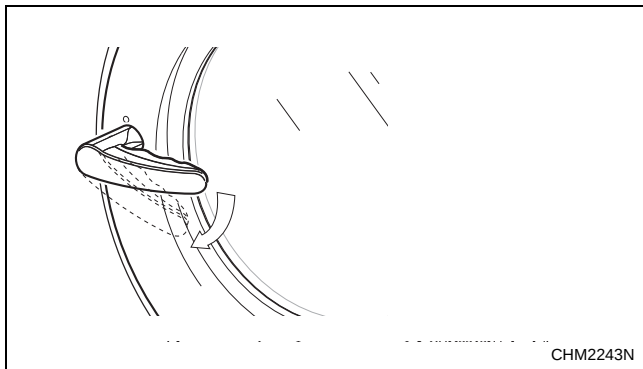

Figure 4
2. Turn handle clockwise to open. Refer to *Figure 4*.